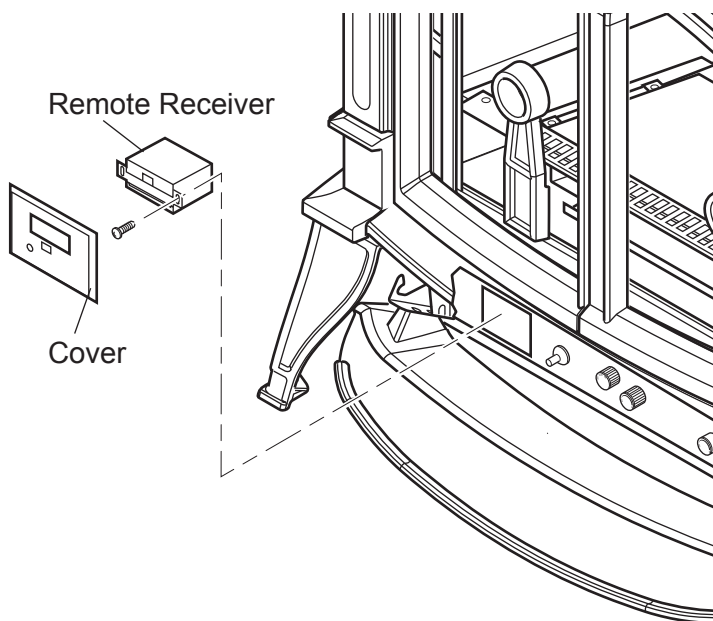

Figure 11 - Installing Remote Receiver
1. Remove cover on control panel to show opening for remote receiver. See Figure 11.
6. Connect the connectors to the two .25" male connectors located on the left side when facing the unit. See Figure 11. Do not let the wire touch the grate or burners.
7. Slide remote receiver in the opening of control panel. Use two screws provided to attach remote receiver to the control panel. See Figure 11.
8. Replace Cover. See Figure 11.